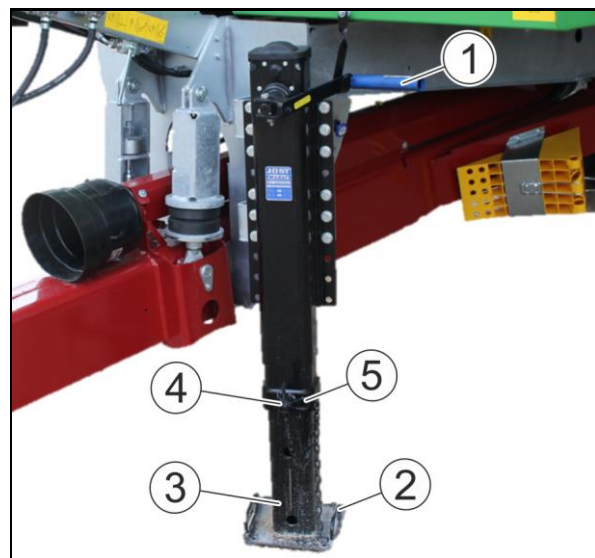

Fig. 47
1. Use one hand to grip the handle (Fig. 47/2) of the telescopic quick adjustment (Fig. 47/3).
2. Use the other hand to unlock and remove the locking bolt (Fig. 47/4).
5. Secure the locking bolt against accidental losing by means of the spring cotter (Fig. 47/5).
6. Use the crank handle (Fig. 47/1) to lower the supporting leg to support position.